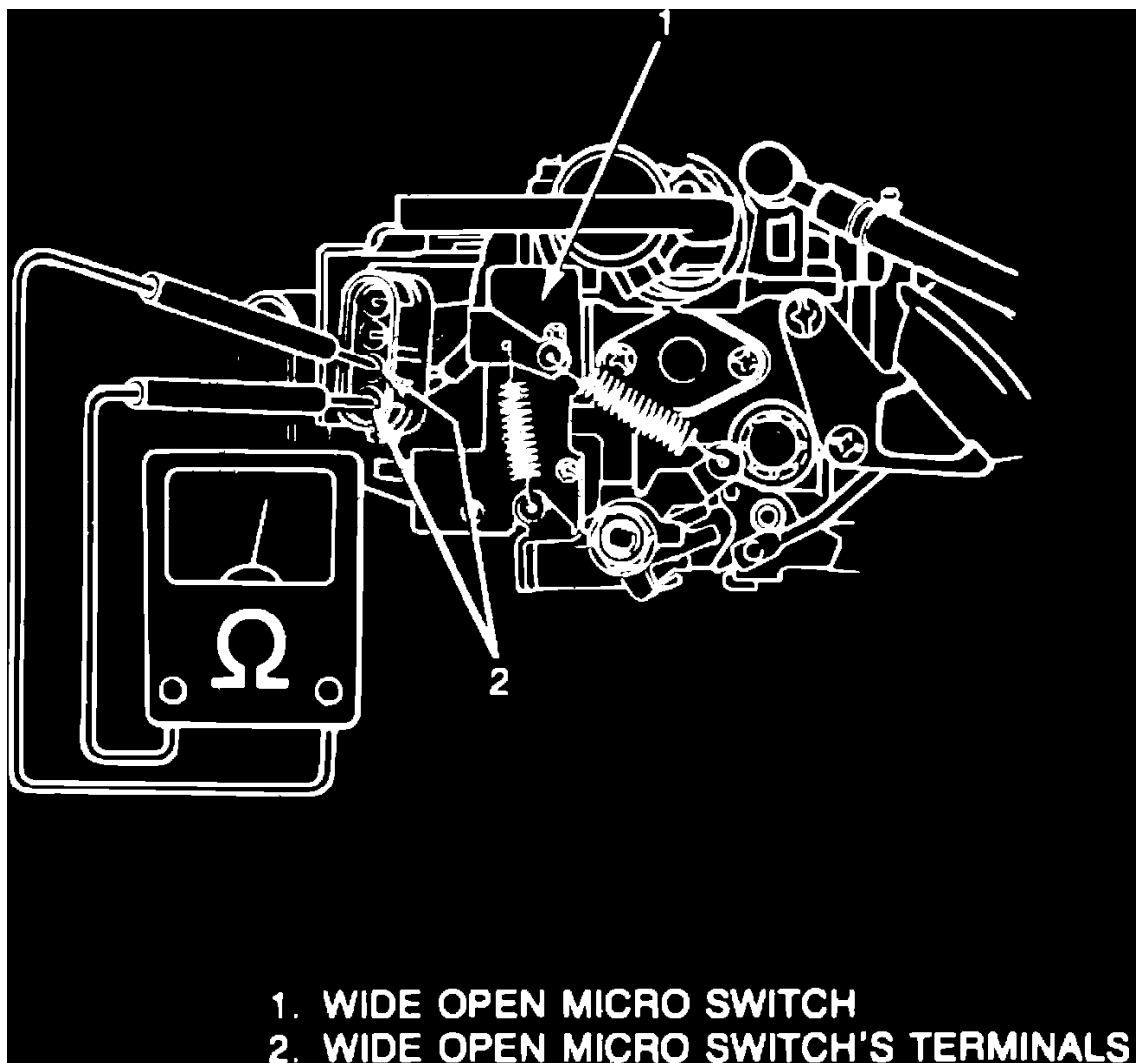

Fig. 12 Wide open throttle micro switch test connections
2. Connect ohmmeter to switch as shown in **Fig. 12**. Resistance between terminals should be infinite.